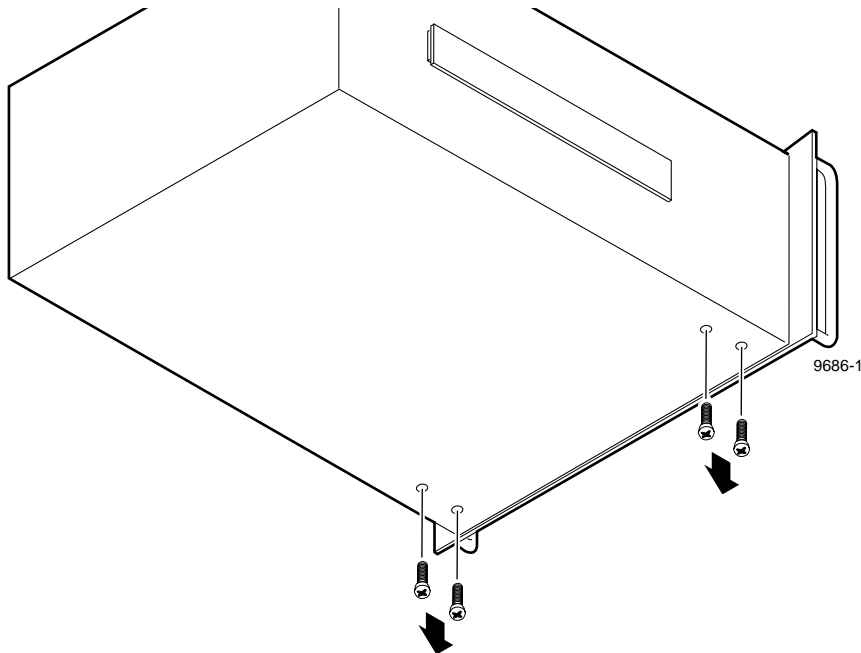

Figure 2. Removing the bottom drive tray screws
2. Using a Torx tool with the T10 tip, remove the four drive tray screws from the bottom of the chassis as shown in Figure 2.